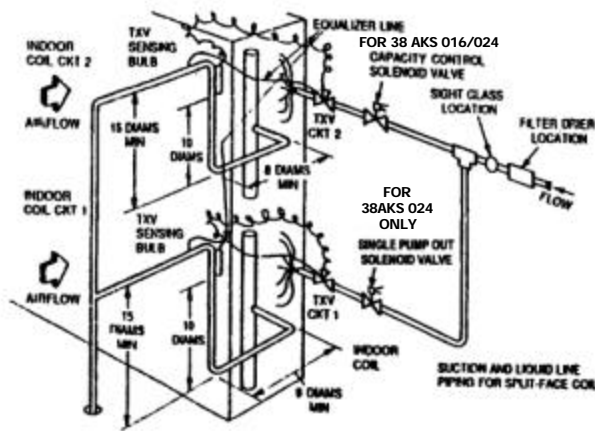
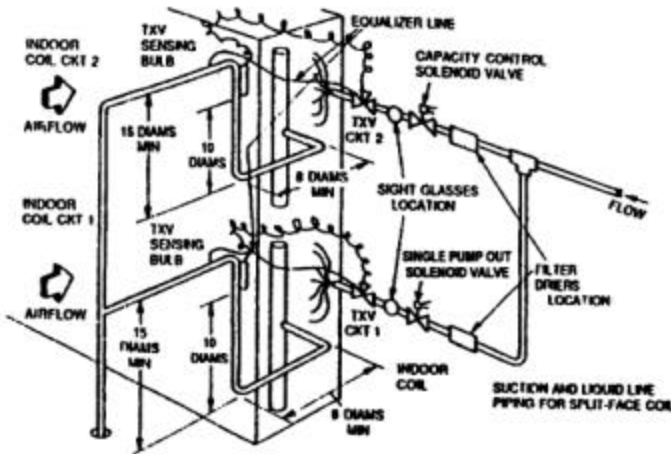

Fig. 5– Location of Sight Glass, Filter Drier and Solenoid Valve(s) for 38 AKS 016/024
Fig. 6 – Location of Sight Glasses, Filter Driers and Solenoid Valves for 38AKS 028/034/044
INSTALL LIQUID LINE SOLENOID VALVE – CAPACITY CONTROL - For 2-step cooling , place a solenoid valve in the location shown in Fig. 5 and Fig. 6 , upper circuit (ckt. 2). Circuit (ckt.) 2 shall be controlled by Thermostat 2 (T2).
9. Be sure compressor floats freely on the mounting springs and that snubber washers can be moved with finger pressure. See Compressor Mounting, page 9, and Fig. 5 for loosening compressor bolts.